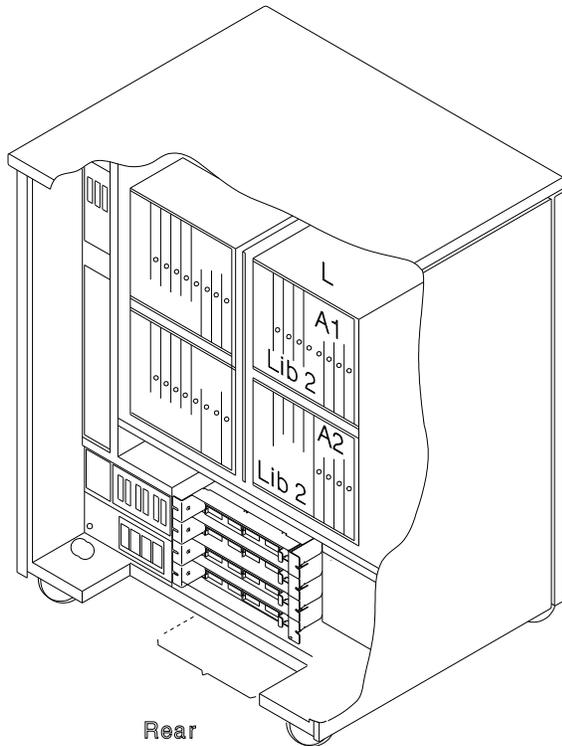

Figure 4-121. LIC Board Type 2 Locations
5. Locate the board to exchange. Refer to Figure 4-121 on page 4-89